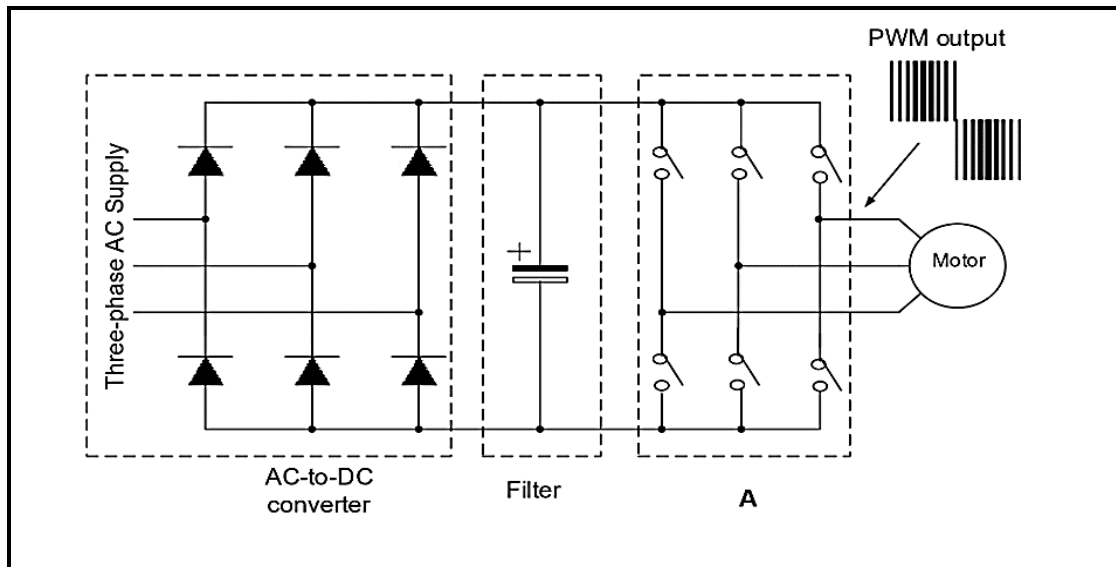

FIGURE 7.6: VARIABLE SPEED DRIVE STAGES
- 7.6 FIGURE 7.6 below shows the different stages in a variable speed drive. Answer the questions that follow.